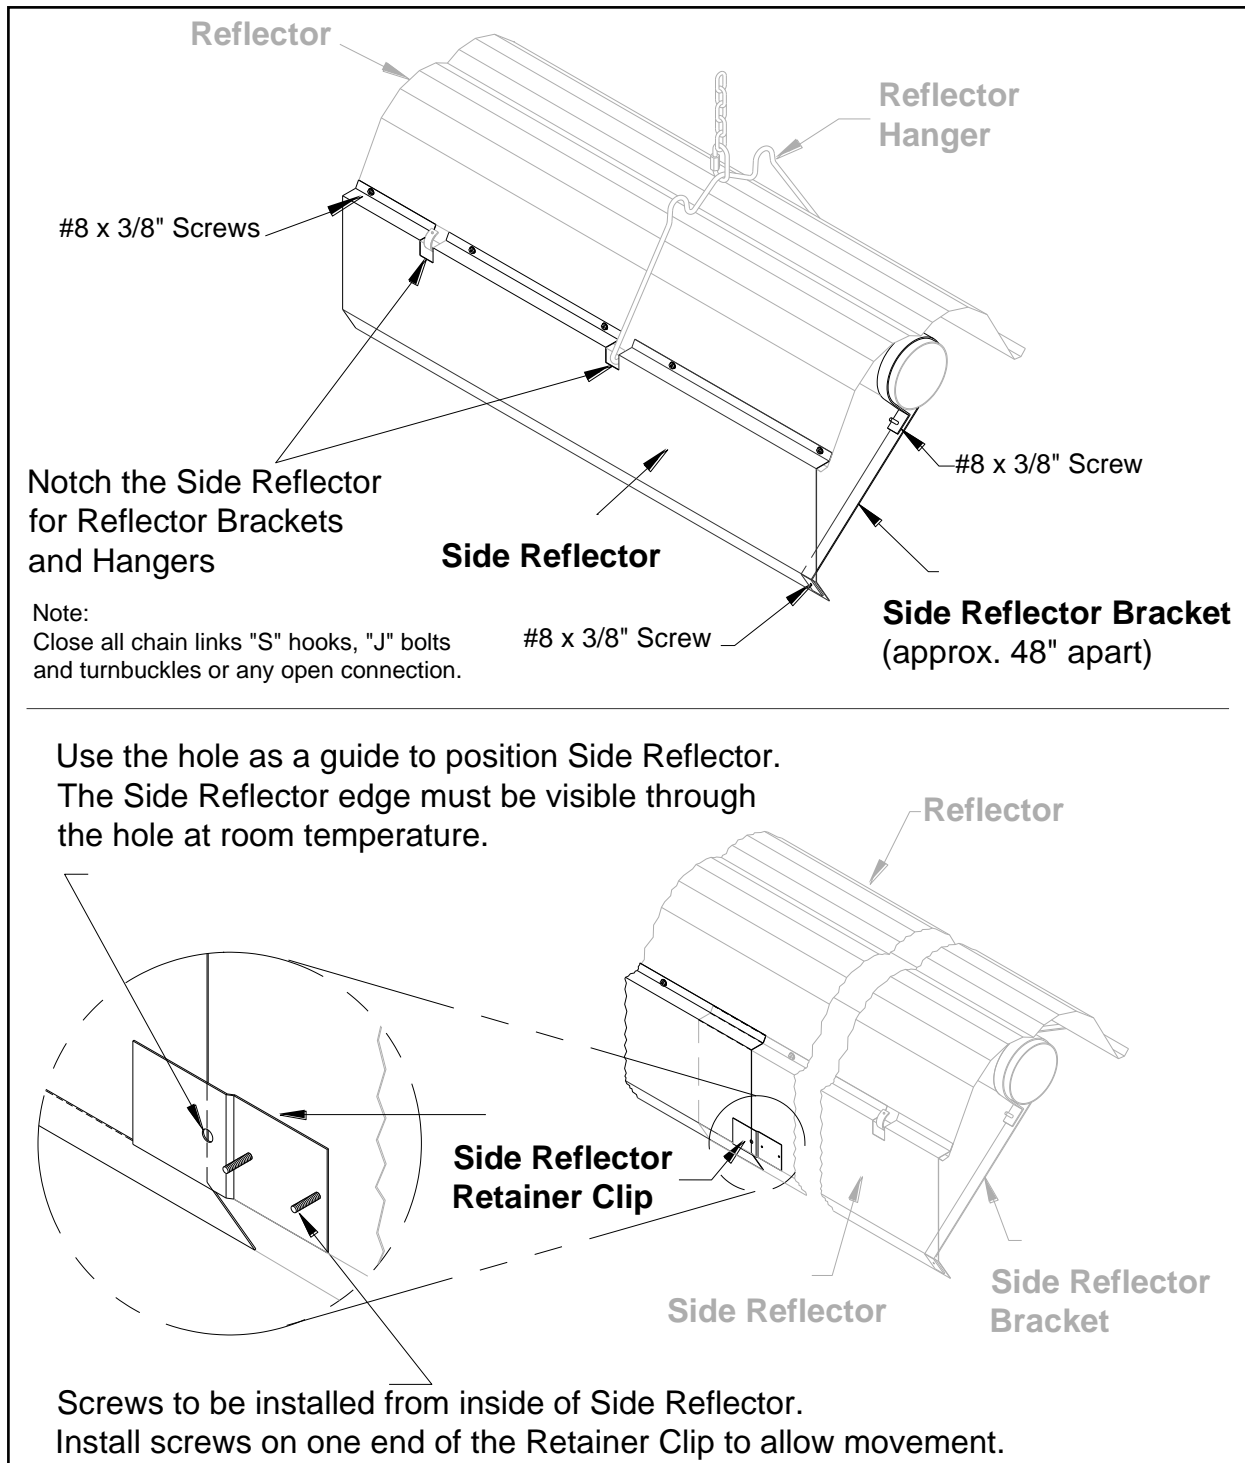
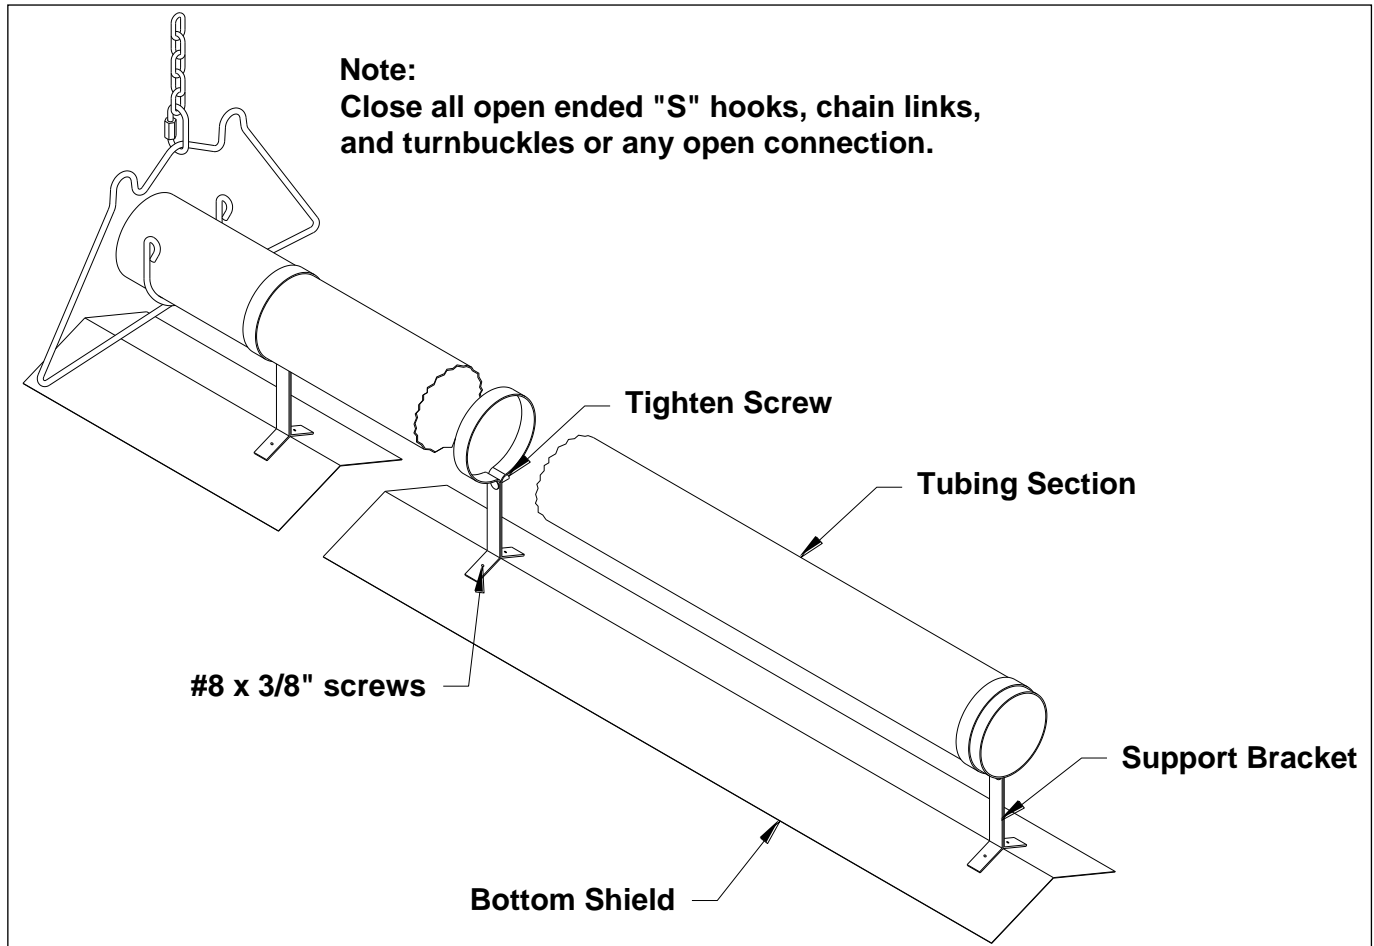

Figure 21: Side Shield Overlap
Figure 22: Bottom Shield Installation
- If used, install side shields (reflectors) and/or bottom shield as required. Refer to Figure 21 and Figure 22 for details.
- Side shields are 124" long. Fasten one side shield per reflector with #8 x 3/8" screws. Use three side shield brackets per side shield. Space about 48" apart, refer to Figure 21.
- Bottom shields need not overlap. Each 5' section is held with two support brackets (see Figure 22).